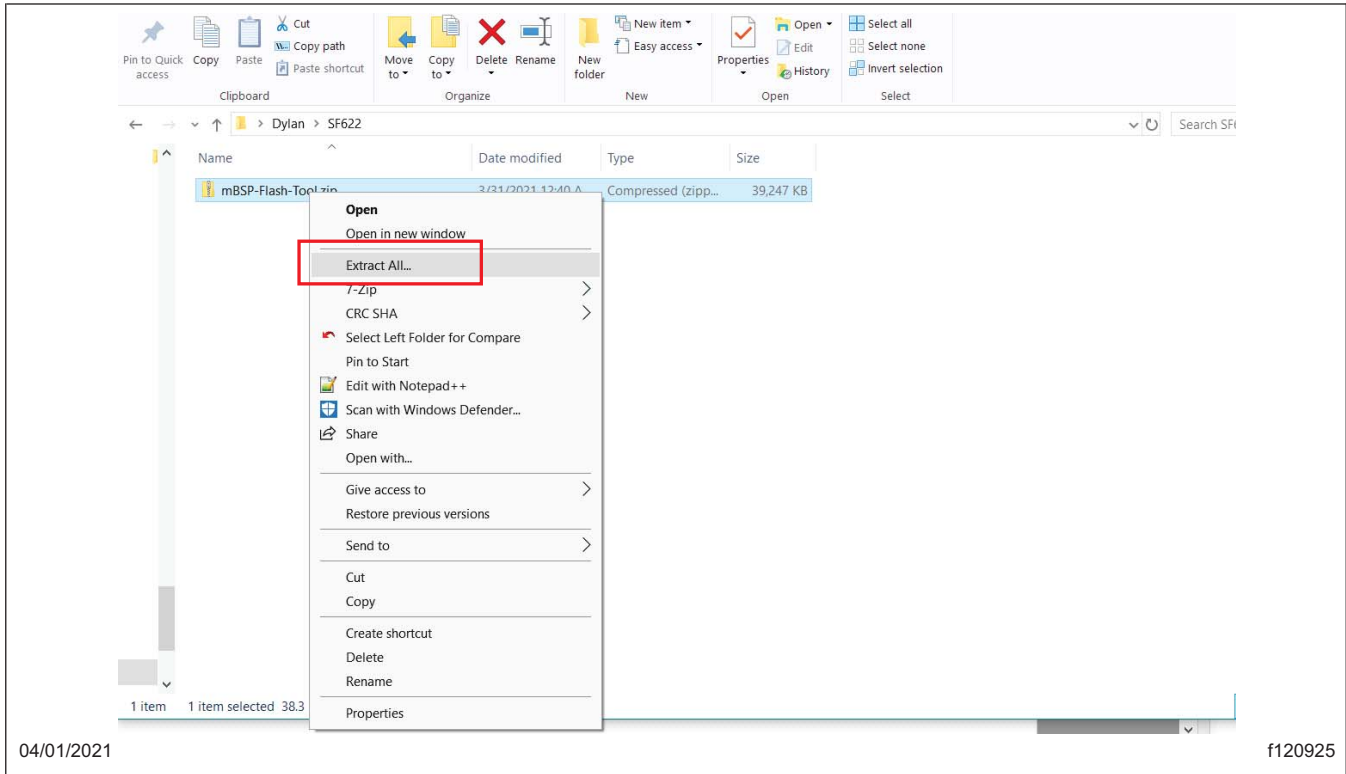

Fig. 5, Extracting the "mBSP-Flash-Tool.zip" File
6. Right click on the "mBSP-Flash-Tool.zip" zip file and select "Extract all". See Fig. 5